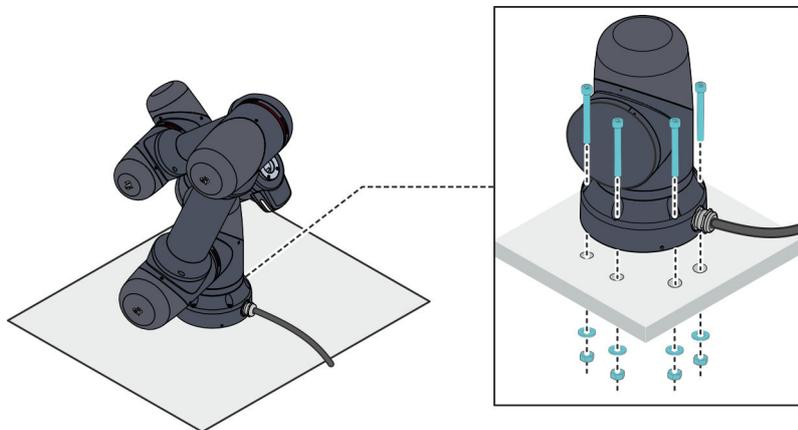

Fig. 94 Undoing the threaded connections (part 1)
Use the socket wrench to loosen a maximum of four lock nuts (M8) on the underside of the table counter-clockwise **Fig. 94**.
- Ensure that exactly the bolts shown in **Fig. 94** are loosened.
04. Remove the corresponding four washers and bolts from the robot base **Fig. 94**.